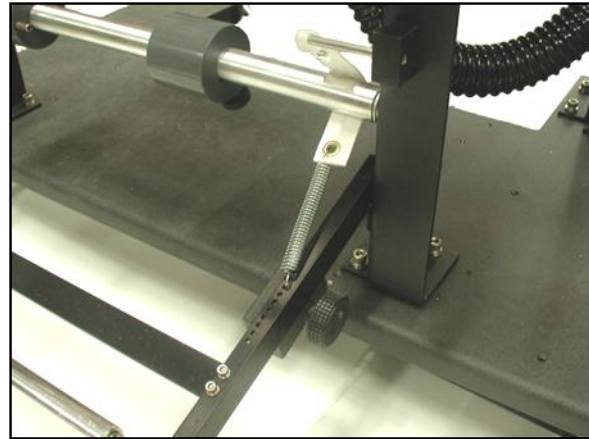

Figure 37B. Unwind Adjustments.
1. Lift Dancer Arm to remove tension from spring. **Figure 37B.**
1. Rotate Dancer Weight locking knob counter-clockwise to release Weight. **Figure 37B.**